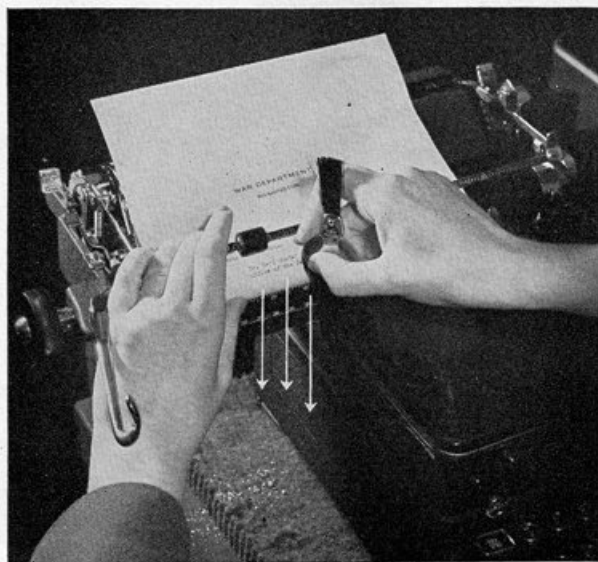

Figure 33.—Erasing on the side, not the middle, of machine.
1. *Always erase with the carriage extended to the right or left so that the eraser fragments will fall at the side of the typewriter instead of dropping into the type bars (see fig. 33). The amount of dirt this will keep out of your machine will astonish you.*